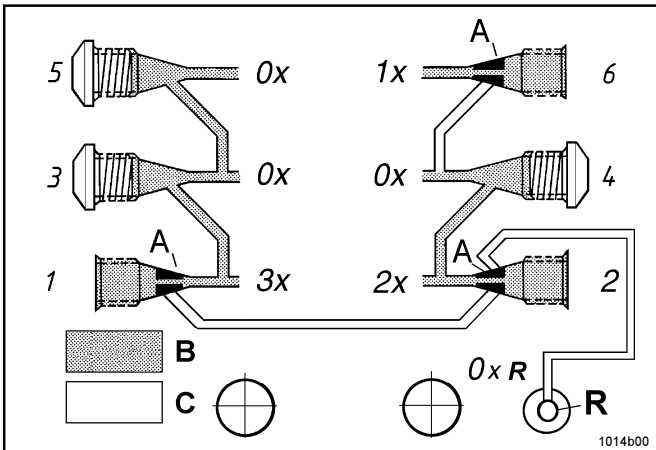

Fig. 1 - Single, double and triple lubricant output
* Install a closure plug in each outlet borehole which is not required (see fig. 1 or 4).
Important: If outlet 2 is connected to a lube point, then outlet 1 must not be closed (see fig. 1).